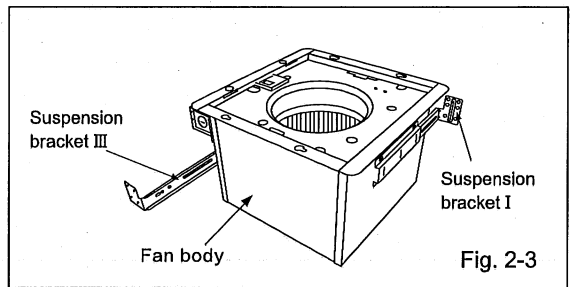

Fig. 2-3
19.2 inches vertical joists	Refer to Fig. 2-3